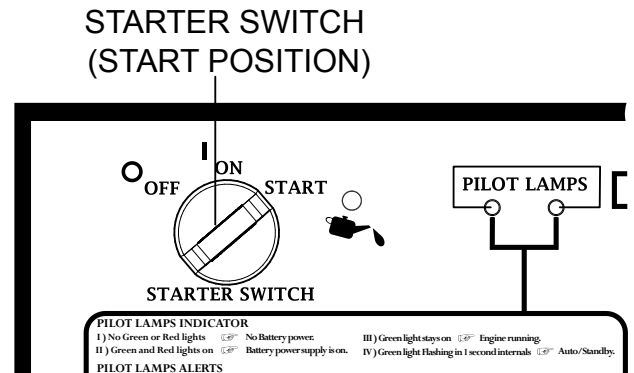

**Figure 10. Operation Mode Selection**
2. Select the mode of operation that you require by setting the Auto/Manual switch to either **AUTO/STANDBY** or **MANUAL** mode (Figure 10).
- Turn the AUTO/MANUAL switch on control panel to the **AUTO/STANDBY** position (Figure 10).